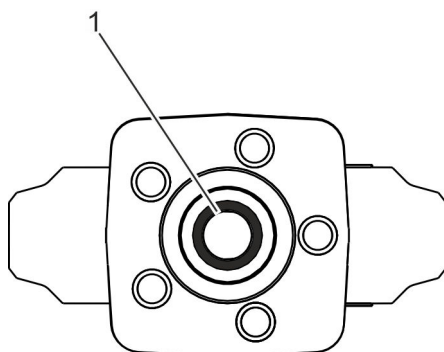

Fig. 13: Removing the gasket ring
6. ➔ Carefully remove the gasket ring (Fig. 13/1) from the body.